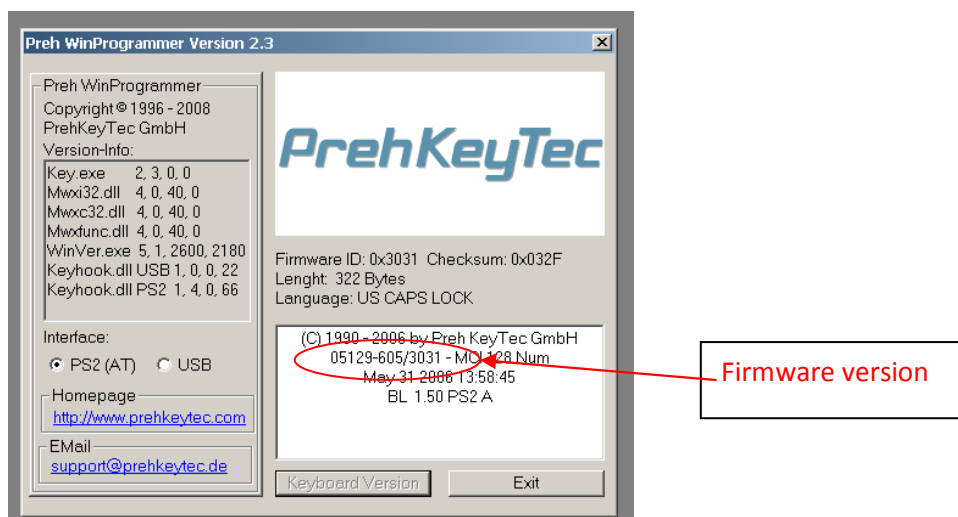

Figure 2
- 3) The firmware in Figure 2 can be updated.
- 7) If the boot loader has not been installed (see figure 2) it should be installed first before firmware is updated.